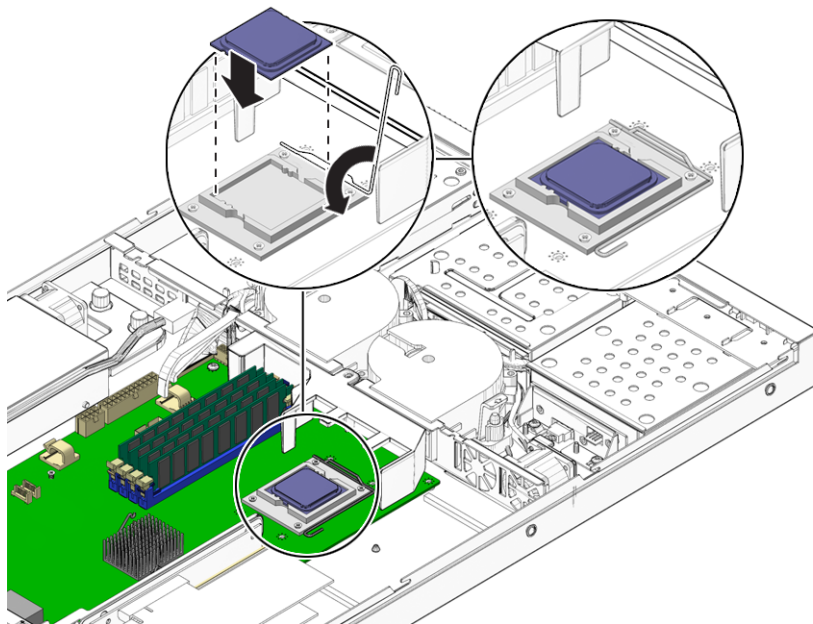

FIGURE 4-34 Installing the CPU
2. Ensure that the socket release lever is in the fully open, perpendicular position and the CPU cover is open (see FIGURE 4-34).